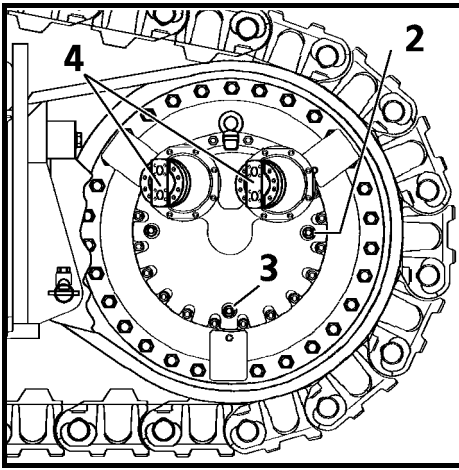
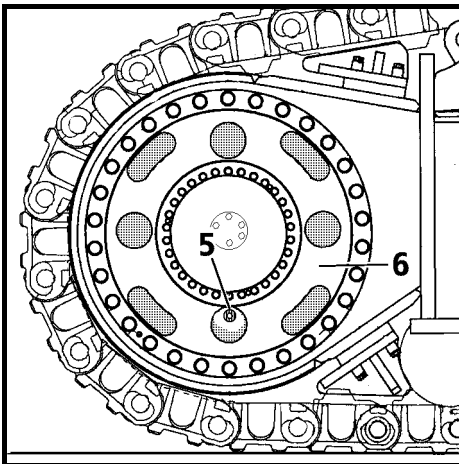

Fig. 18
Fig. 19
Each travel gear is equipped with two plugs to check the oil level and to add oil (Fig. 18, pos.2) and with two oil drain plugs. One drain plug (Fig. 19, pos.3) is mounted to the lower inner section, the second drain plug (Fig. 18, pos.5) to outer ring which rotates with the sprocket.